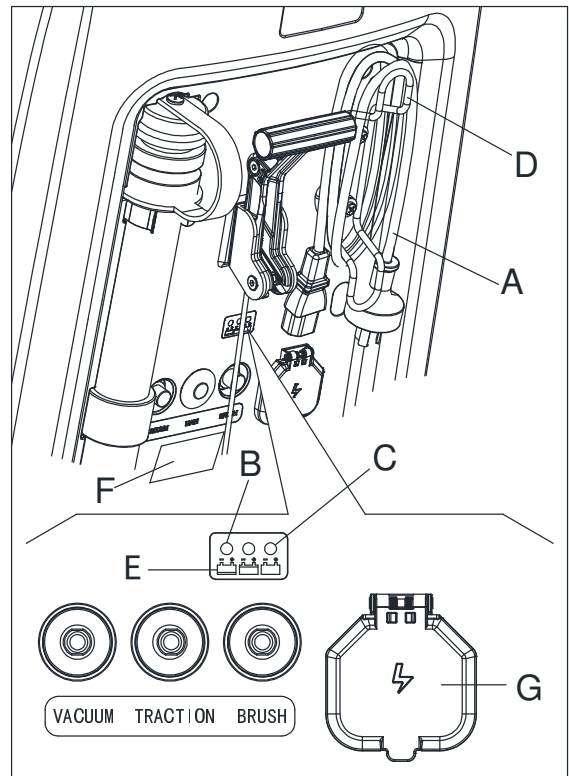

Figure 15
7. Connect the battery charger cable (A, Figure15) to the electrical mains (G) (the electrical mains voltage and frequency must be compatible with the battery charger values shown on the machine serial number plate (F)). When the battery charger is connected to the electrical mains, all machine functions are automatically cut off. If the red warning light (B) on the battery charger control panel stays on, the battery charger is charging the batteries.
8. When the green warning light (C) turns on, the battery charging is completed.
9. When the battery charging is completed, disconnect the battery charger cable (A) from the electrical mains (G) and wind it round its housing (D).
For further information about the operation of the battery charger (E, Figure 15), see the relevant Manual.